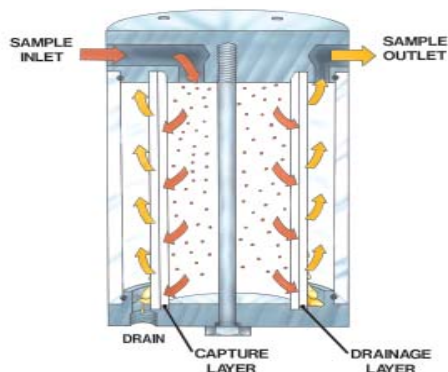

Figure 2
2. Installed with the flow passing from the inside of the element to the outside, the element will act as both a particulate and a coalescing filter. Figure 2 details the flow through the filter housing and element.